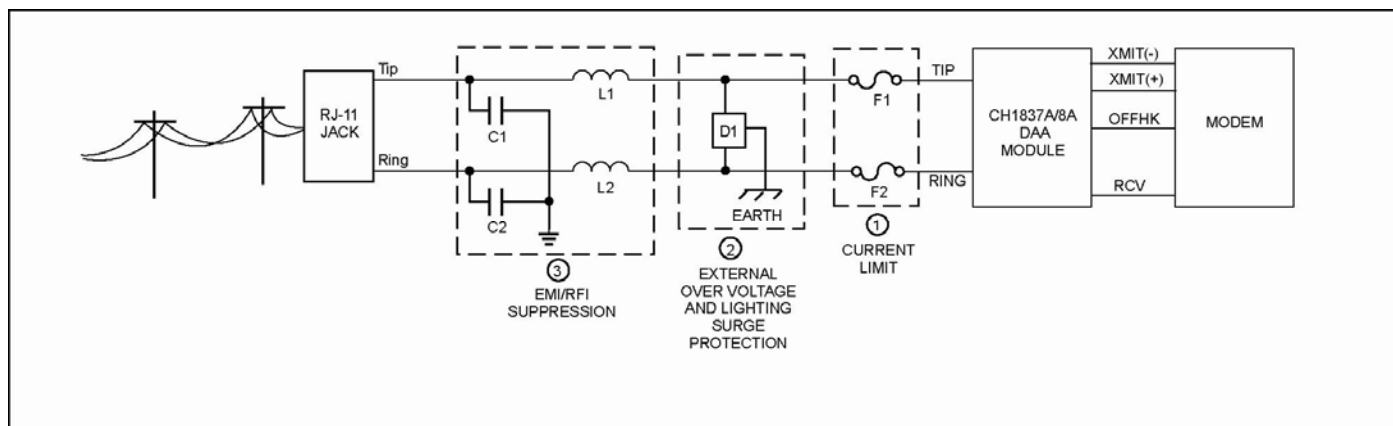

Figure 5. PSTN Line Interface.
The Public Switched Telephone Network (PSTN) line isolation barrier circuitry provides isolation and the required surge and high voltage protection. This circuitry effectively isolates the user's equipment from both the PSTN line and the CO. The CH1837A/8A has been designed to meet both FCC Part 68 (USA) and DOT CSA CS-03 Part I (Canada) isolation and surge requirements when circuited as indicated in Figure 5. Among the more critical parameters, the PSTN isolation barrier will provide at least 1500VAC RMS isolation and 2122V peak surge protection. The CH1837A/8A is also UL60950/3rd edition listed and meets CSA C222-950 test conditions when connected as indicated in Figure 5.
To further protect the end product containing the CH1837A/8A from field failures caused by large transients present on poor quality PSTN lines and to maintain UL recognition, an additional level of external transient protection is required. Refer to Figure 5 for mandatory additional protection circuitry.
when circuited per Figure 5 herein. Cermetek offers the following end product design guidelines as suggestions only. These guidelines are intended to facilitate the usage of Cermetek DAA modules and to assist the user with FCC certification of their end product.
- B. In most environments, 2 terminal surge suppressors are adequate. For severe environments, use an external 3 terminal device (as indicated in Figure 5) with an earth ground.